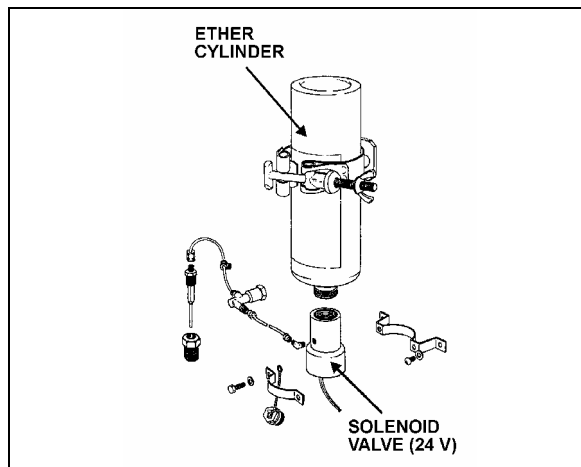

FIGURE 3: COLD STARTING AID
| FIGURE 3: COLD STARTING AID | 4 |
1. Check cylinder for hand tightness and fuel supply (Fig. 3). Empty cylinder weight is approximately 17 oz (480 g); full cylinder weight is approximately 35 oz (990 g). If cylinder is empty, replace it. Before replacing cylinder, install new valve gasket in solenoid valve.